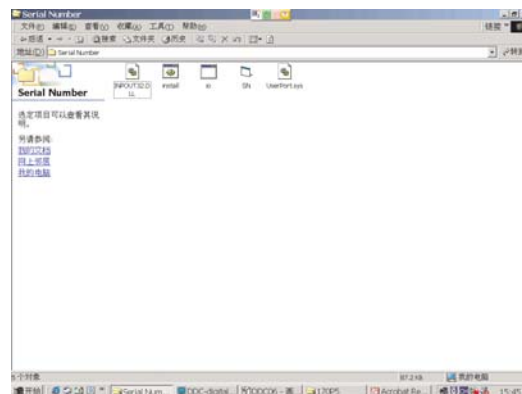

Fig.28
1. Unzip the serial number.zip to your computer, then open the folder as shown in Fig.28.
3. Set I2C bus (press the left-top button of operating window) as shown in Fig.28, then press " SET" button.